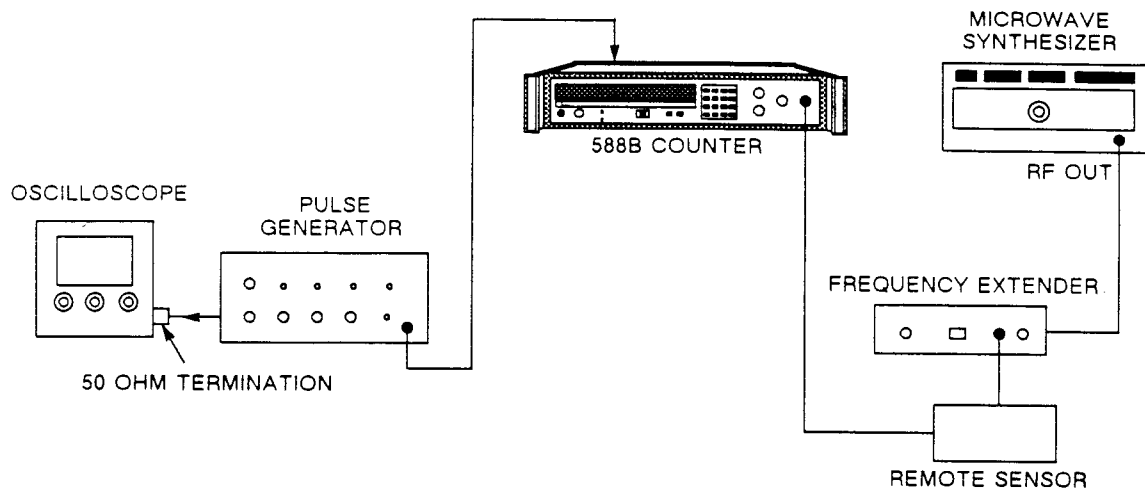

Figure 11-3. Gate Error Calibration Setup.
1. Set up equipment as shown in Figure 11-3 and described below.